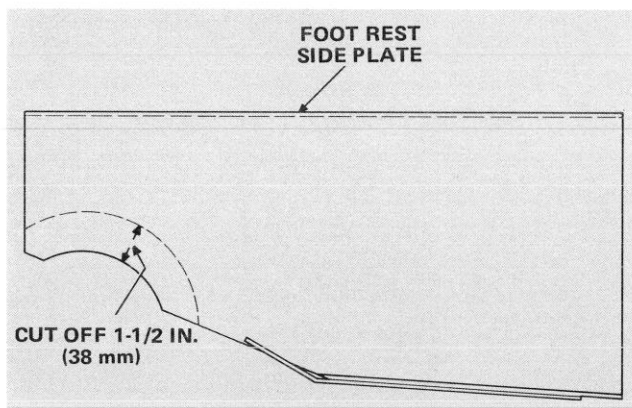

Figure 18
6. Remove foot rest side plate. Matching the radius in lower front corner, measure 1-1/2 in. (38 mm) in on plate, scribe and trim 1-1/2 in. (38 mm) area off plate (Fig. 18). Set plate aside for further use.